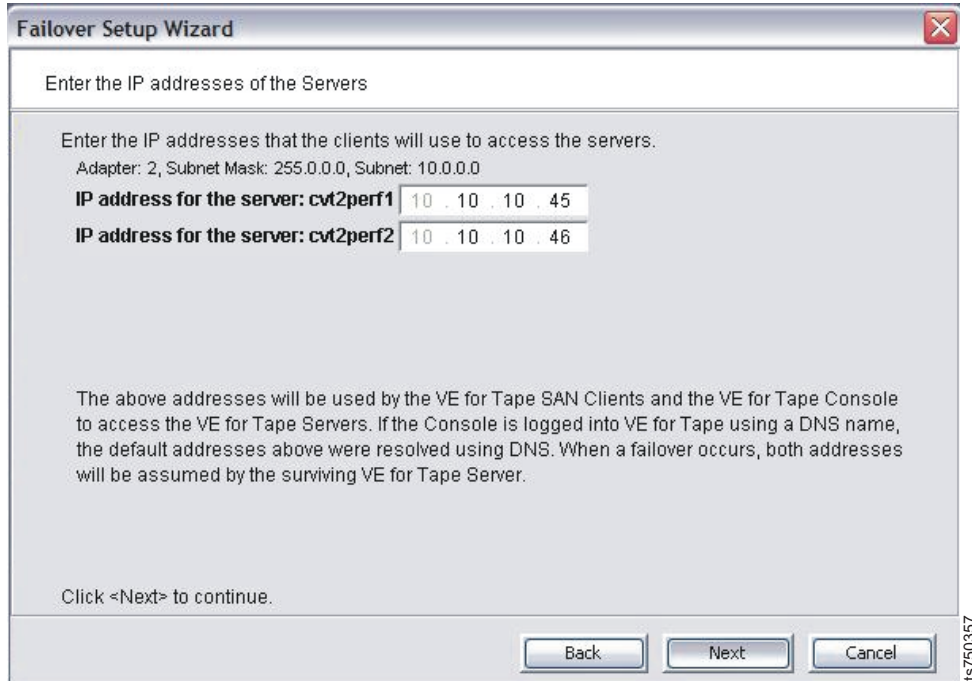

Figure 26. Entering or confirming network interface IP addresses for adapter 2
12. __ In the Enter the IP addresses of the Servers (Adapter 2) window (Figure 26):